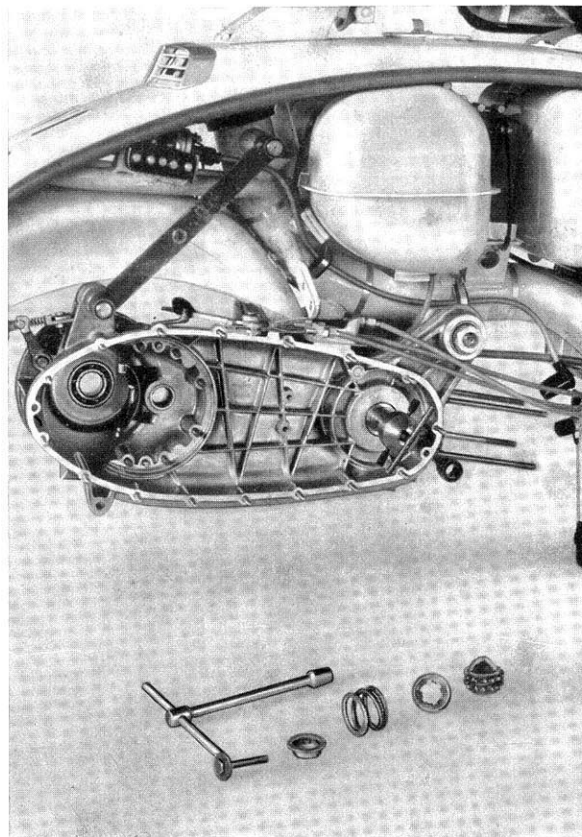

Fig. 19
- 33** To remove engine sprocket shock damper: hold control shaft with Tool No. 49221 fitted to connecting rod, unscrew fixing bolt (14mm spanner) remove washer, spring, splined collar, and sprocket. Then with aid of Extractor No. 60051 extract splined sleeve. See Fig. 19.